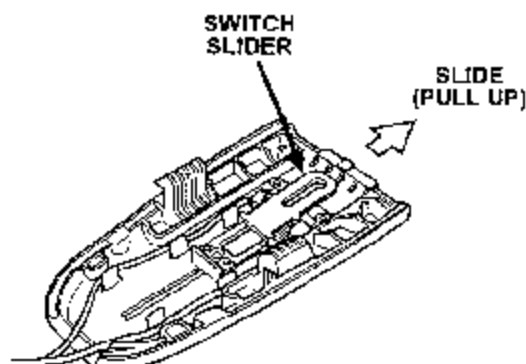

FIGURE 12
19. **Driver's Side Buckle Only (Laser/Talon); Both Sides (Stealth):** Move the switch slider into the up position (Figure 12).